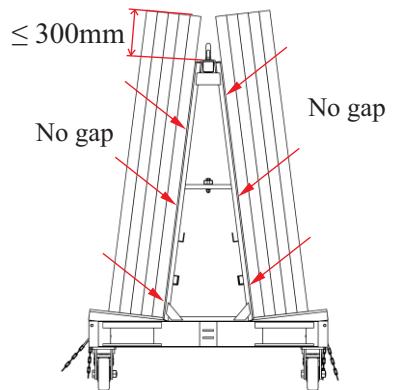

Figure 1.3
- *The stone slabs must lean against the frame (Figure 1.3).*
- *The height of the slab shall not be more than 300mm from the top of the A-frame (Figure 1.3).*